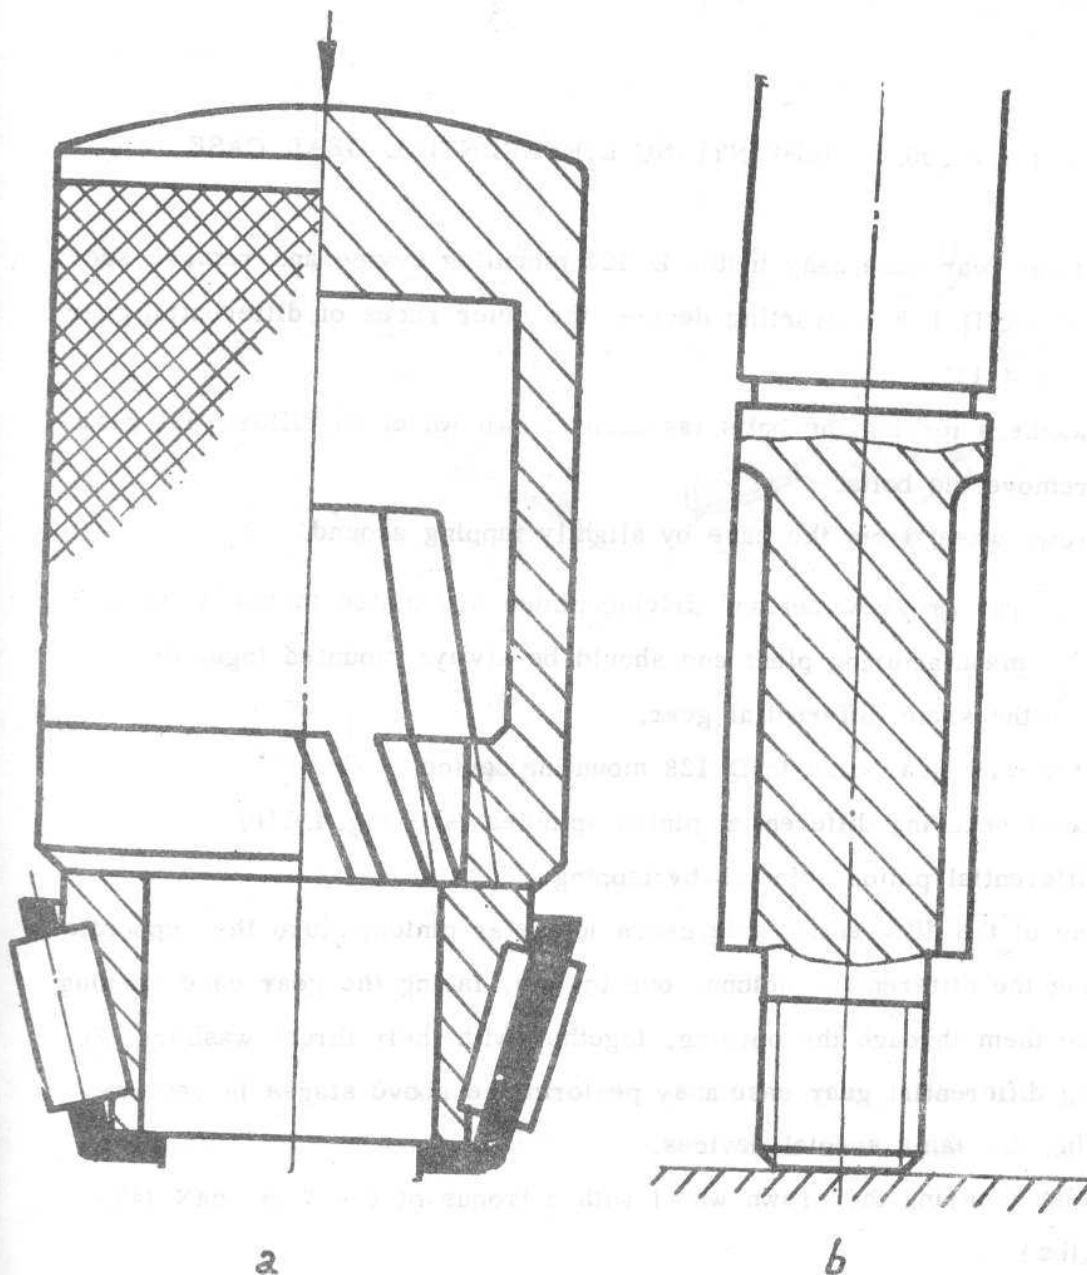

Fig. 4.115. EXTRACTING DRIVE PINION REAR BEARING INNER RACE
- Depress inner bearing race from off the driving pinion shaft, using the S 133 extracting bushing (see Fig. 4.115)